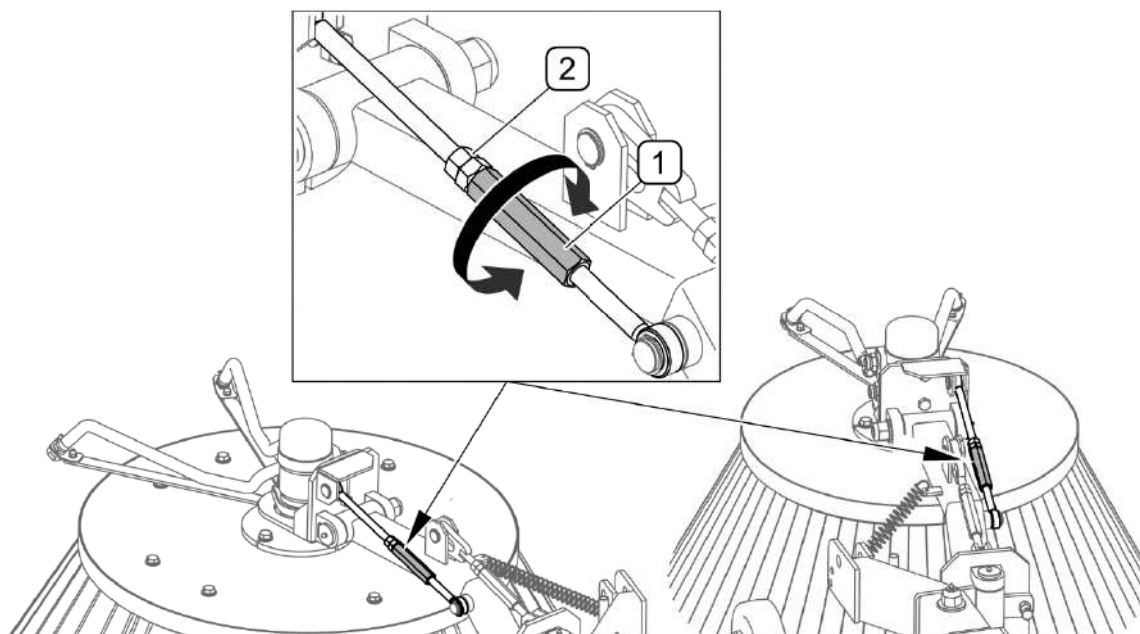

FIG. 5.7 Adjustment of brush arms
- 2) Adjustment of brush arms (FIG. 5.7)
(1)- tensioner; (2)- securing nut
Height of brush arms (FIG. 5.7) is adjusted by means of tensioners (1). Loosen securing nuts (2) before adjustment and then turn tensioner (1) in order to set a required height of individual arms. After adjustment, tighten securing nuts (2). The adjustment is carried out independently for the right and left brush.